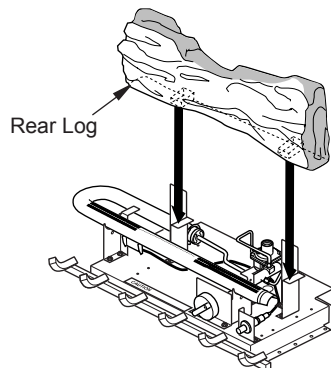

Figure 18 - Rear Log Placement (Variable Manually-Controlled Models)
1. Place rear log onto rear brackets making sure brackets fit into recess on bottom of log (see Figure 18).